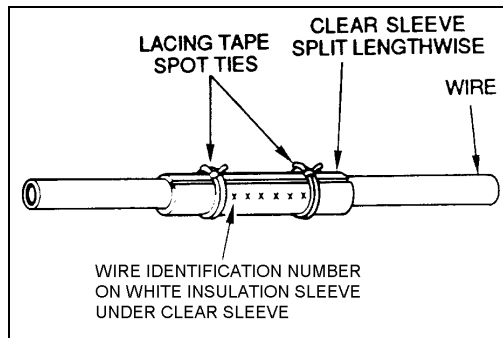

FIGURE 11-32. Temporary wire identification marker.
**11-221. TEMPORARY WIRE AND CABLE MARKING PROCEDURE.** A temporary wire marking procedure follows but should be used only with caution and with plans for future permanence. (See figure 11-32.)